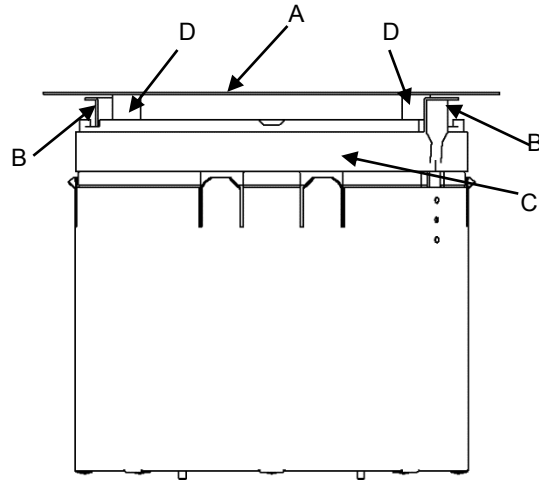

Fig. 1
5. Insert service fitting, S1R10PTFIT series, into cored hole. Press down onto installation plate (A) until brackets (B) in Fig. 1 sit flush against the floor. On smaller diameter core drilled holes some shearing of the flexible intumescent gasket material (C) may occur.